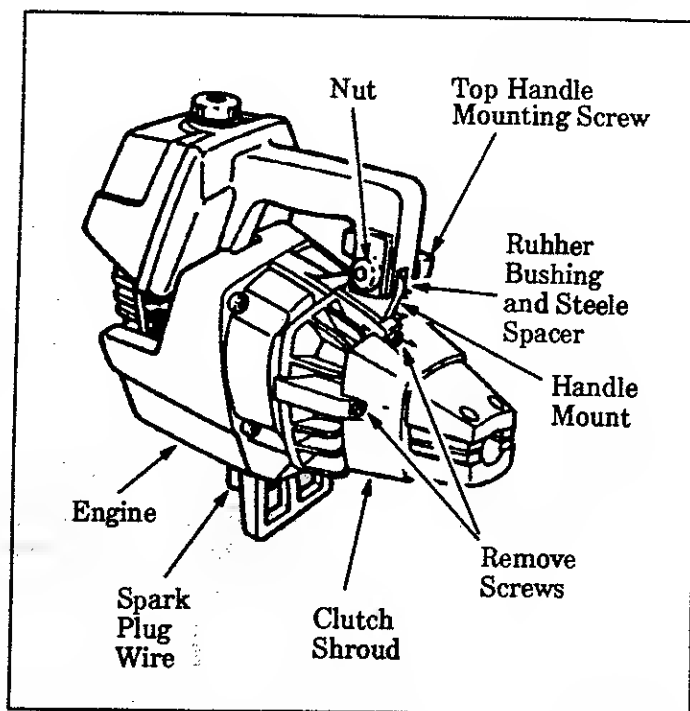

Figure 23
1. Disconnect Spark Plug Wire. Figure 23.
2. Remove the four Clutch Shroud Screws with the small hex wrench provided. Figure 23.
3. Remove the Top Handle Mounting Screw and Nut, and remove the steel Spacer from the Rubber Bushing. Figure 23.
4. Separate the Clutch Shroud from the Engine. Figure 23.